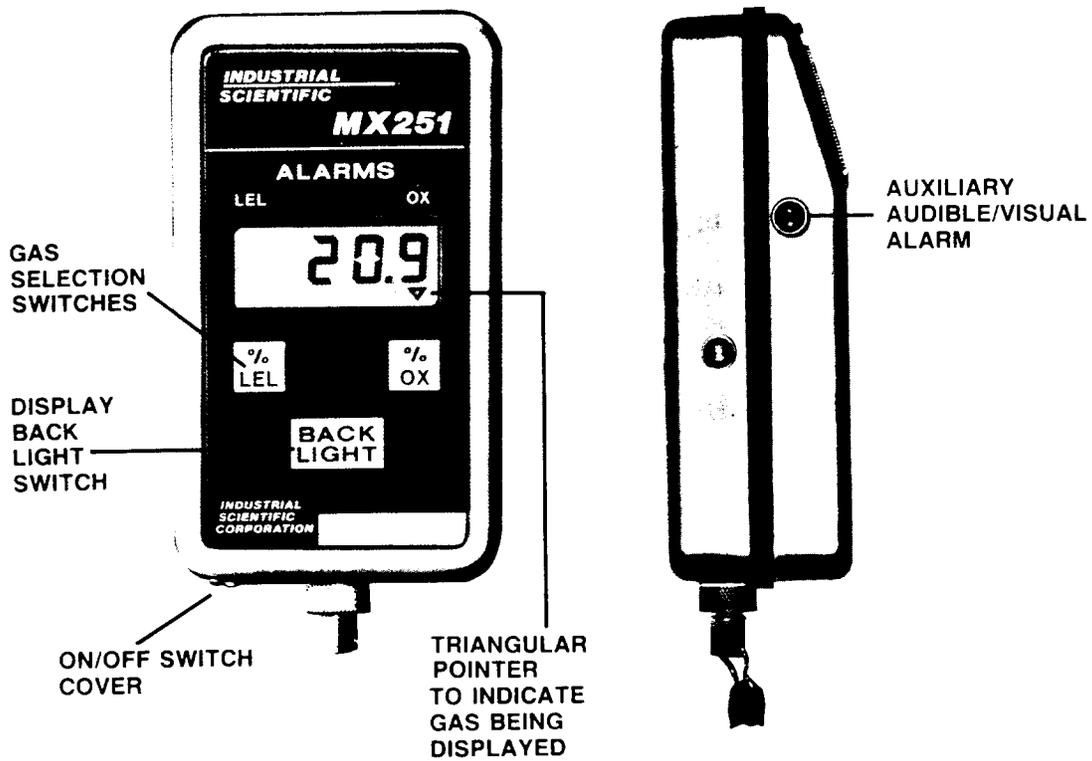

Figure 1 - Industrial Scientific Model MX251 Continuous Gas Monitor
- 1.01 This section describes the MX251 continuous gas monitor. A continuous duty oxygen and combustible gas monitor for testing and monitoring manholes and cable vaults. The unit has an aspirator bulb and hose used for pre entry sampling. (See figure 1)
- 2.0 The MX251 Monitor continuously and simultaneously monitors ambient levels of oxygen and combustible gases. Both gases are monitored simultaneously; only one is displayed on the instrument's liquid crystal display (LCD). When one of two membrane switches located immediately below the LCD panel is touched, the respective gas readout will appear on the display. A small triangular pointer also appears on the display, just above the switch that was pressed, to indicate which gas is being displayed. The last gas selected will remain on display until a different switch is pressed. When the instrument is first turned on it will automatically display the oxygen readout. (See figure 1).